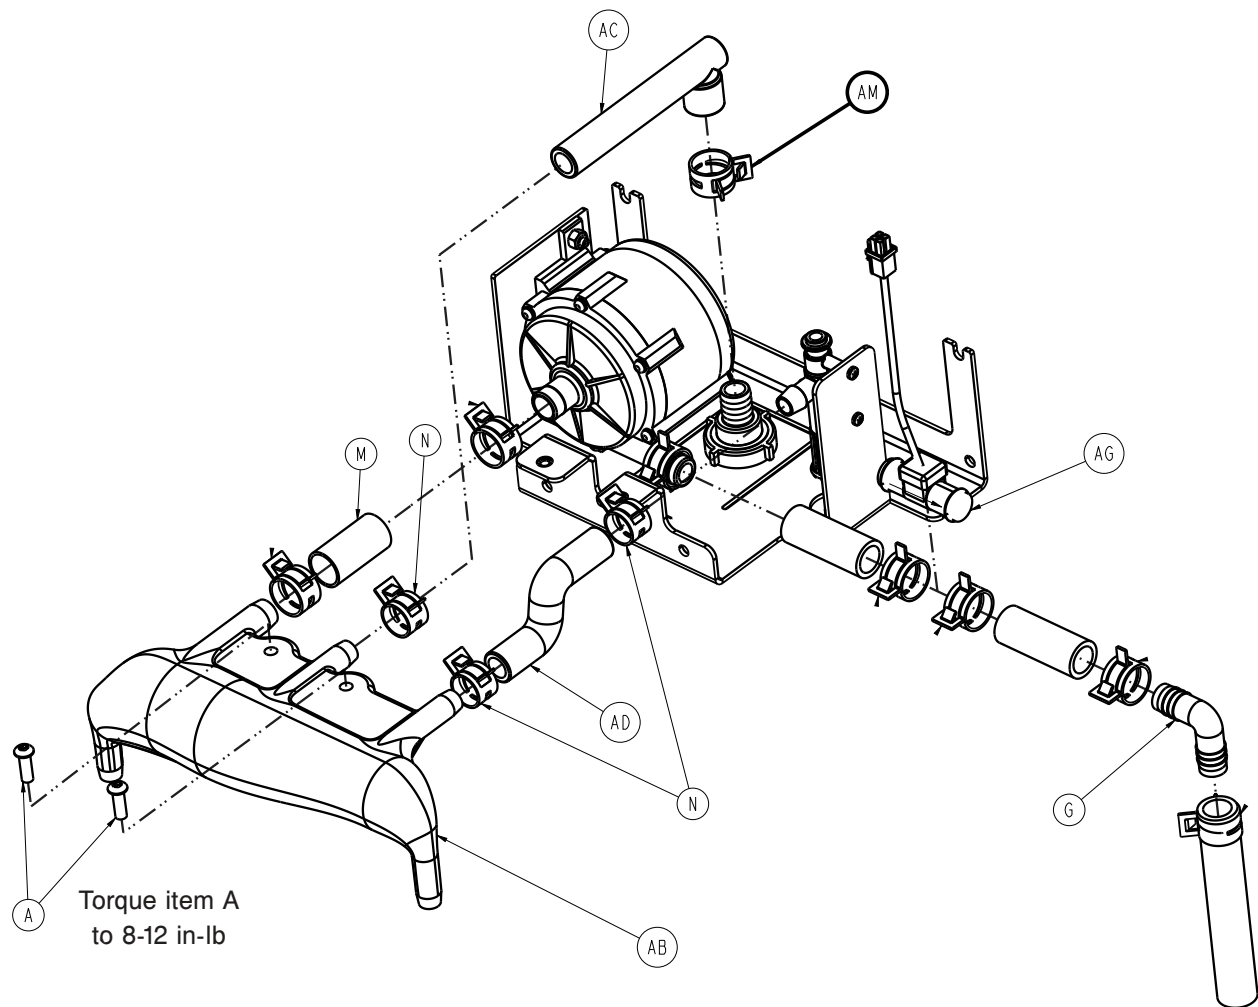
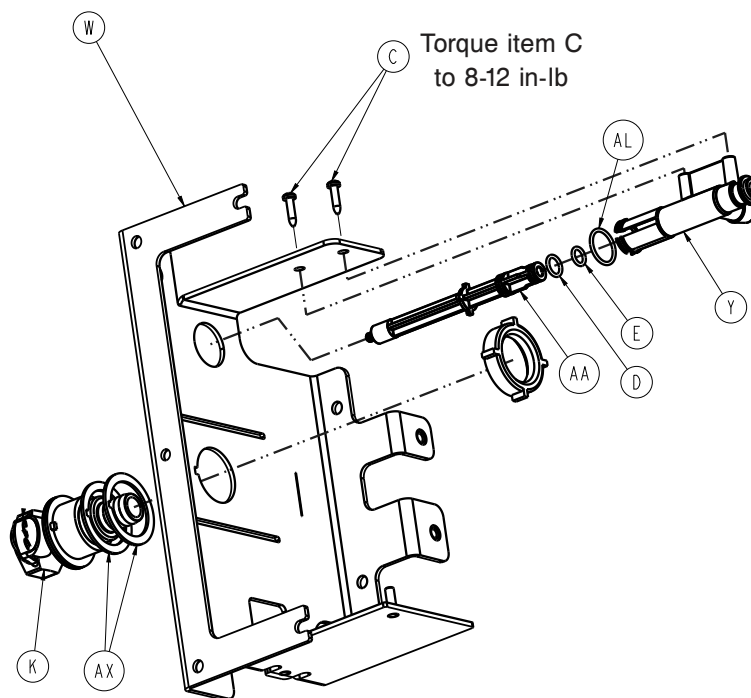

Figure 15: Hose clamp
Figure 16: Coupling
3. Using needle nose pliers, squeeze the hose clamp (AM) (Figure 15 on page 26) that secures the tube to the coupling (K) (Figure 16 on page 27).